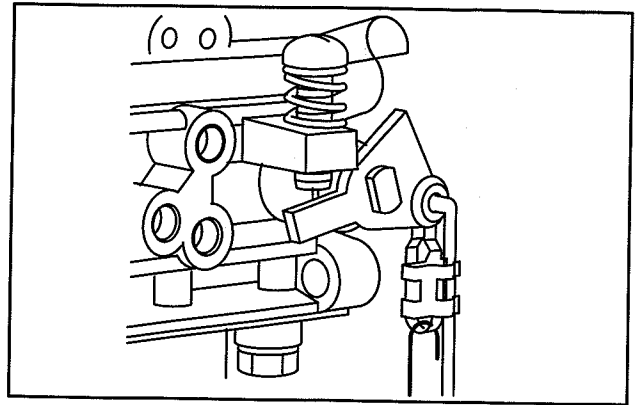

Fig. 67 – Connect Governor Link
4. Connect governor link to throttle lever and snap retainer over link, Fig. 67.